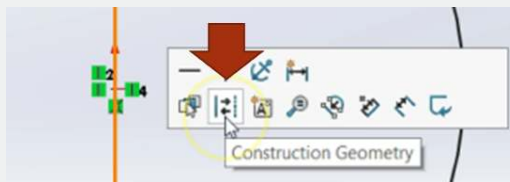

Figure 2.25 Construction Line from In Context Toolbar
- Click on a solid line and select the “Construction Geometry” Icon from the context toolbar (Figure 2.25).